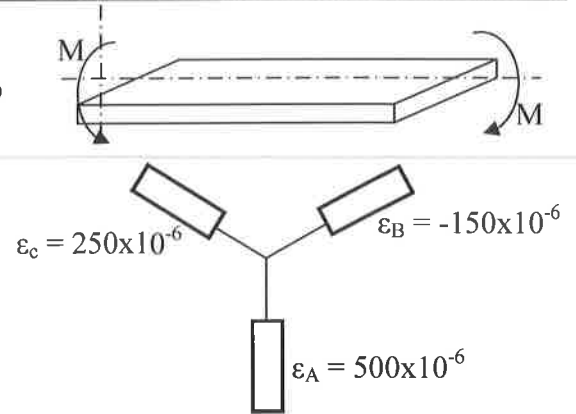

Figure Q4
4. A 120° strain gauge rosette is attached to a steel bar of width 100 mm and thickness 10 mm and the strain readings indicated in Figure Q4 were obtained. The bar is subjected to bending moment 'M' acting in the x-y plane.